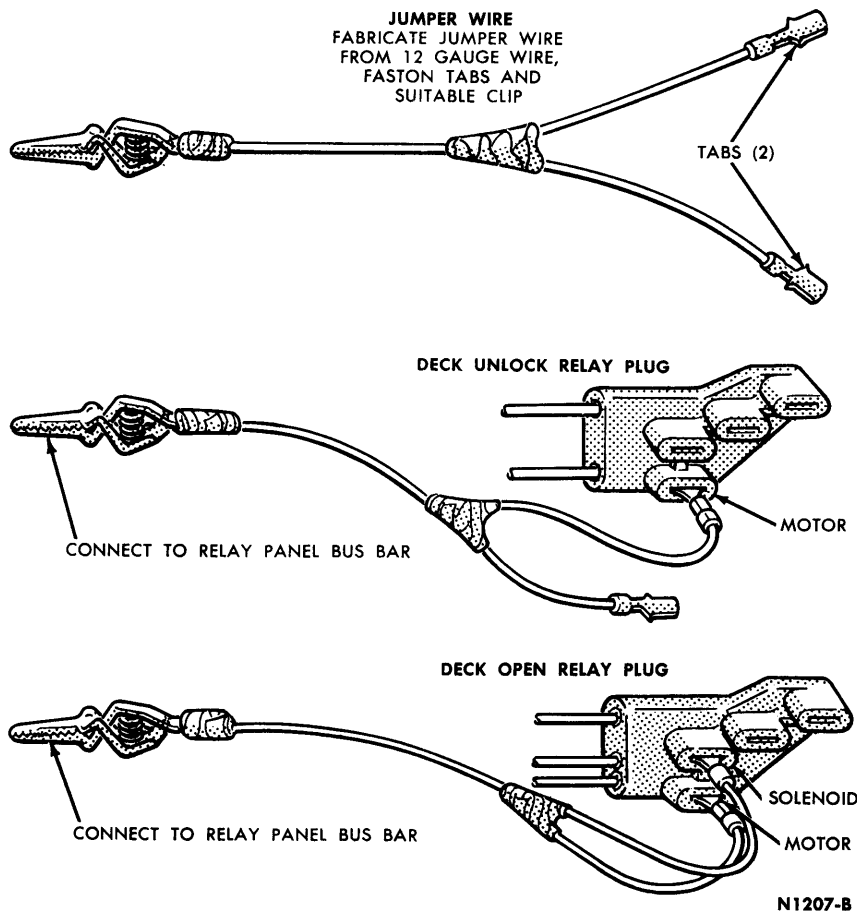

FIG. 16—Alternate Method of Opening Deck Lid—Jumper Fabrication
3. Fabricate a jumper wire as shown in Fig. 16. Energize the deck unlock motor through the disconnected multiple plug and relay panel bus bar with the jumper wire (Fig. 16).
multiple plug from the deck open relay located behind the rear seat back. Energize the deck motor and pump assembly through the deck open relay plug with the use of the jumper wire (Fig. 16).